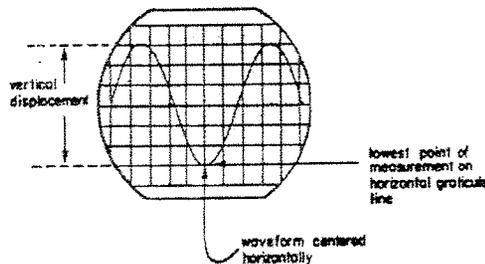

Fig. 6 Peak-to-peak voltage measurement
3. Adjust the V. POSITION control until the lowest point of the waveform falls on one of the horizontal graticule lines, keeping the waveform as close to being centered as possible. (see Fig. 6)
For example, in Fig. 6 if the VOLTS/DIV selector was in the 5mV/DIV position using the X1 probe then the voltage of the waveform peak to peak would be 6 DIV of vertical displacement times 50mV/DIV x 1 (probe factor)=300mV peak-to-peak.